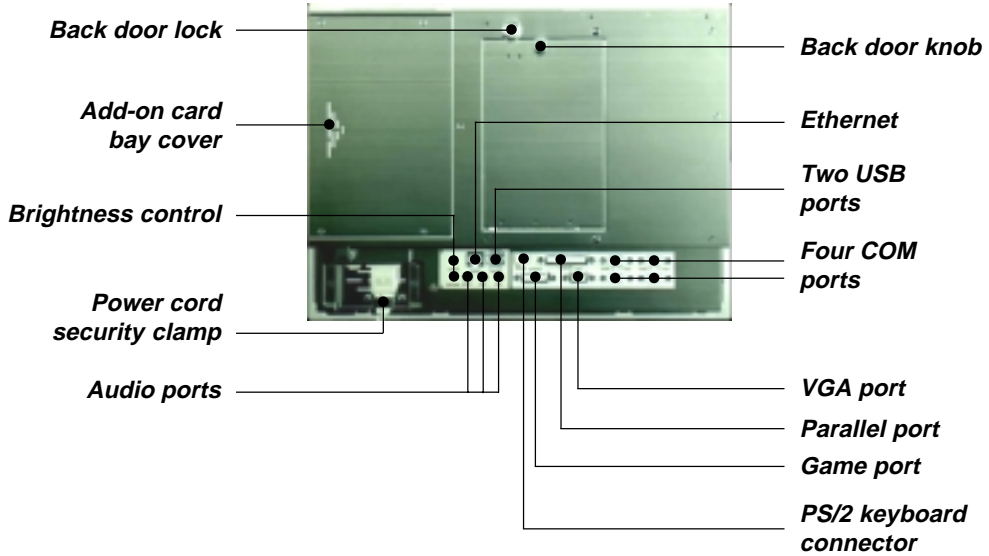

Figure 2-2: Rear view
2. Attach the interface cable of the serial device to the panel PC's serial port. (See Fig. 2-2.) If necessary, attach the other end of the interface cable to your serial device. Fasten any retaining screws.